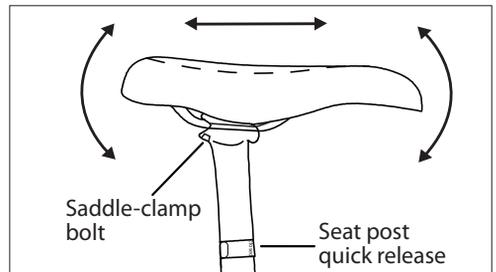

Fig. 51: Saddle bolts and adjustments.
1. Decrease the tightness of the saddle-clamp bolt (Fig. 51) until the saddle can be moved.